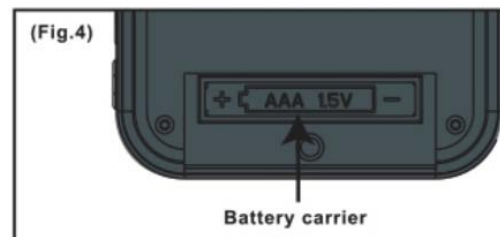

Figure 4: Battery compartment
1. Remove the battery cover on the back of the thermometer with a Phillips head screwdriver (Fig. 4).